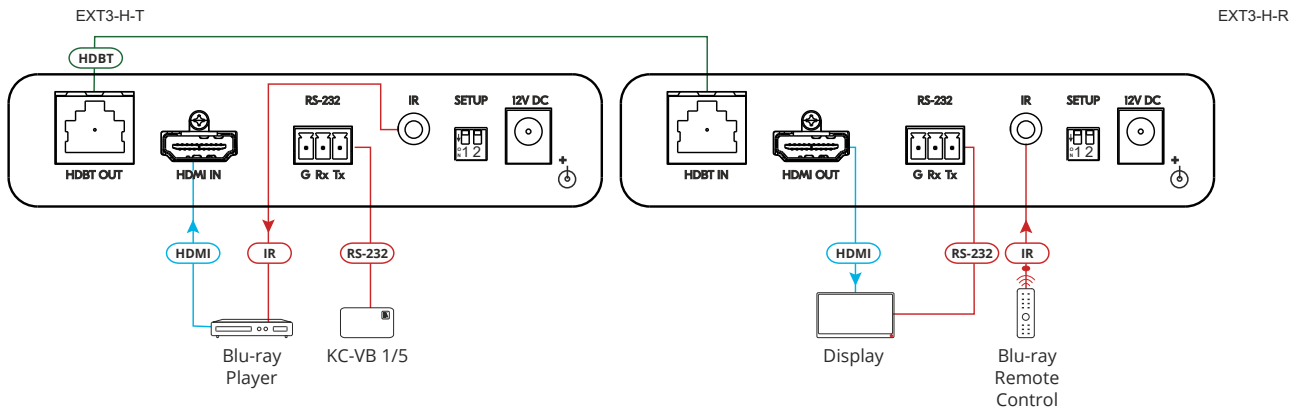

Figure 3: Connecting to the **EXT3-H-T/R**
To connect **EXT3-H-T/R** as illustrated in the example in Figure 3:
1. On **EXT3-H-T** connect an HDMI source (for example, a Blu-ray player) to the HDMI IN connector (6).
2. On **EXT3-H-R** connect the HDMI OUT connector (16) to an HDMI acceptor (for example, a display).
3. Connect the LINE RJ-45 (5) connector on **EXT3-H-T** to the LINE RJ-45 connector on **EXT3-H-R** (15).
- On **EXT3-H-T** connect a controller (for example, **KC-VB1/5** room controller) to the RS-232 3-pin terminal block connector (7).
- On **EXT3-H-R** connect the RS-232 3-pin terminal block connector (17) to the RS-232 control port on the display.
- On **EXT3-H-T** connect the IR 3.5mm mini jack (8) to an IR emitter cable and connect it to the Blu-ray IR sensor.
- On **EXT3-H-R** connect the IR 3.5mm mini jack (18) to an IR sensor (receiver) cable.
6. Connect the power adapters to both extenders and to the mains electricity (not shown in Figure 3).